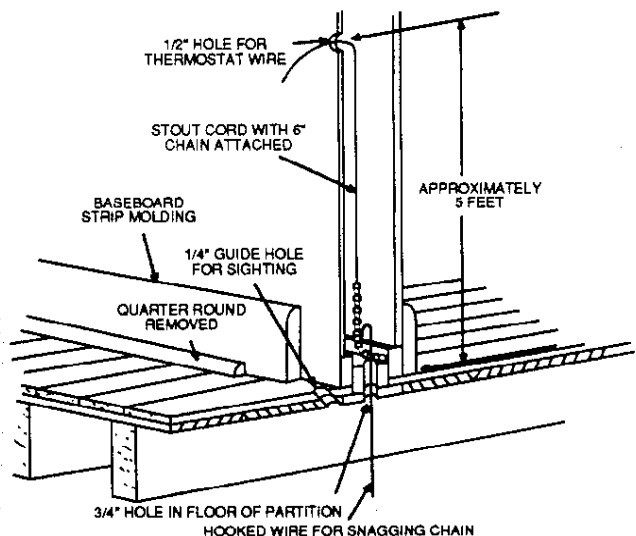

Figure 1. Routing Thermostat Wires
3. Probe for obstructions in partition before drilling 1/2" hole in wall at selected location. Take up quarter round and drill a small guide hole for sighting (see fig. 1). From basement, drill 3/4" hole in partition floor next to guide hole. In basementless houses, drill 1/2" hole through ceiling and into partition from above (see fig. 1).